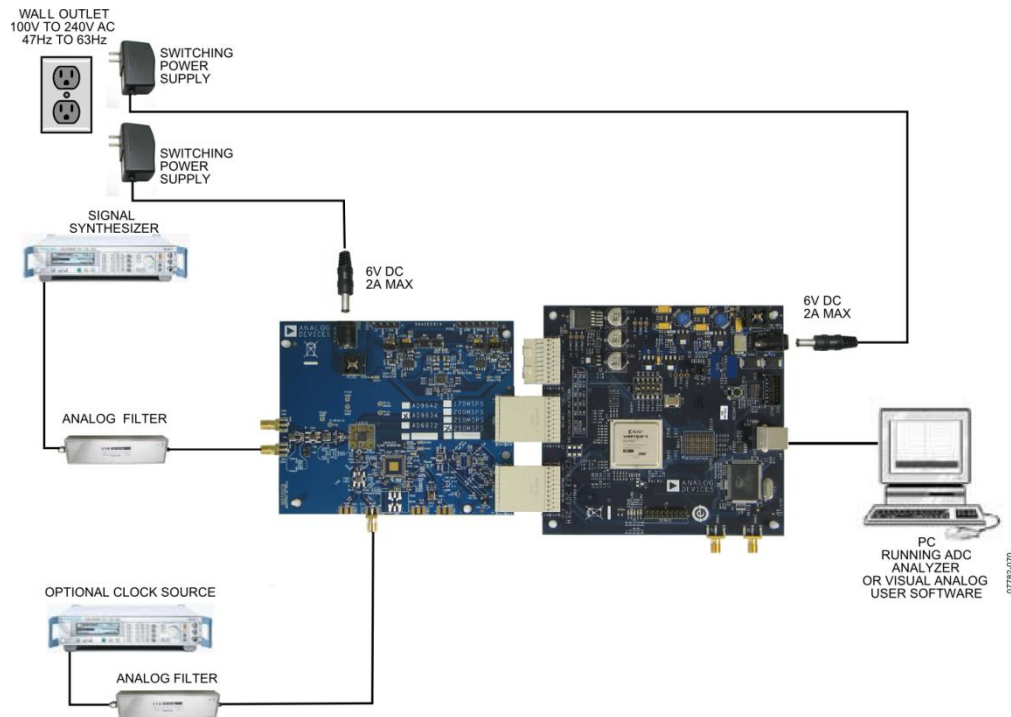

Figure 1: AD9634 Evaluation Board with HSC-ADC_EVALCZ Data Capture Board
1. Connect the AD9634 evaluation board and the HSC-ADC-EVALCZ board together as shown in Figure 1.
9. Next open the SPI Controller software. If prompted for a configuration file, select the configuration file titled AD9634_12Bit_205MSspiR03.cfg. If not, check the title bar of the window to see which configuration is loaded. If necessary, choose "Cfg Open" from the "File" menu and select one of the configuration files named above. Note that the CHIP ID(1) field may be filled whether the correct SPI Controller configuration file is loaded or not.